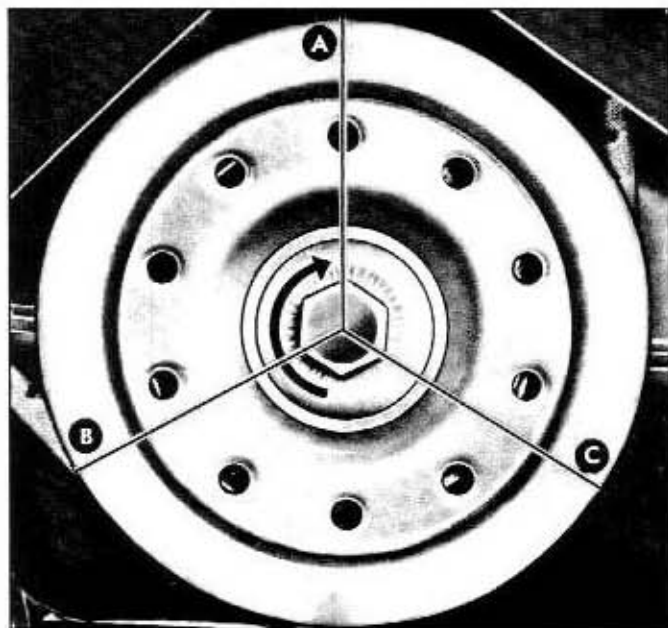

Fig. 6A-8—Preliminary Valve Clearance Adjustment—(60C-5608)
2. Make two chalk marks on the crankshaft damper. See figure 6A-8. Space the marks approximately 120° apart so that with the timing mark, the damper is divided into three equal parts (120° represents 1/3 of the distance around the damper circumference—points "A", "B", and "C" in the figure).